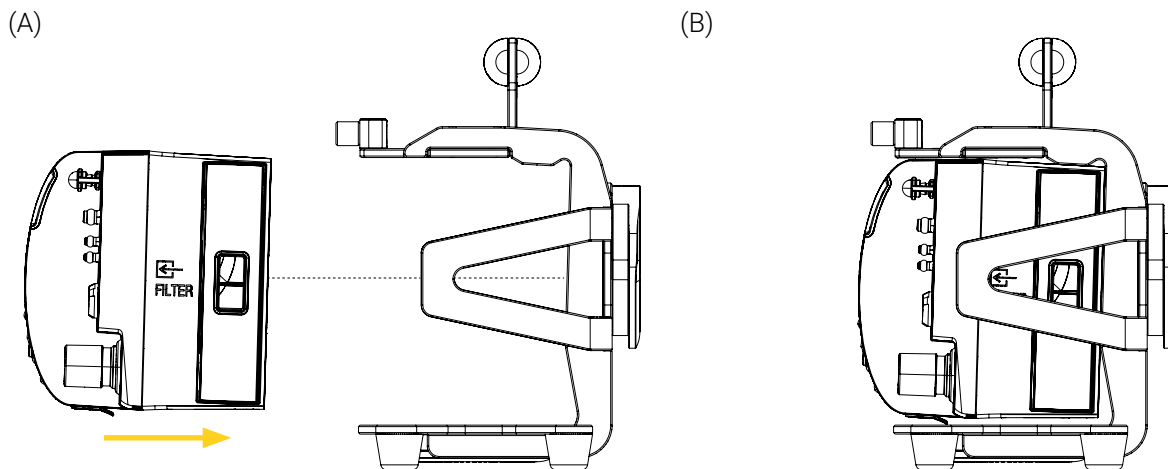

Figure 8: Installing the medical device in the BP380 – GR
3. Insert the medical device in the mounting bracket horizontally and push it on the bottom plate until it is pressed against the back plate (Figure 8).